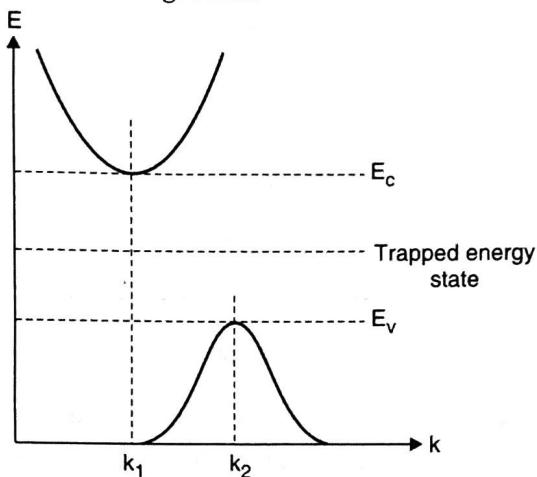
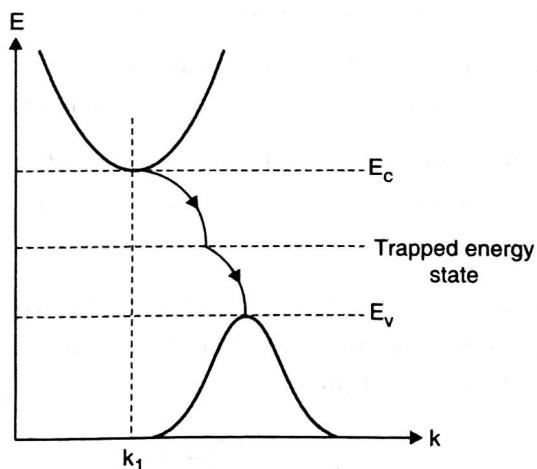

Fig. 3.2.2
Fig. 3.2.3
- (1) Momentum of electrons should be made equal to that of holes.
- (2) Momentum of holes should be made equal to that of electrons
- Trapped energy states are as shown in Fig. 3.2.2.
- As it is clear from Fig. 3.2.2 that momentum for electron is k_1 and that for hole is k_2 (i.e. momentum are different). But in order to make momentum of the same value, a transition will take place as shown in Fig. 3.2.3.